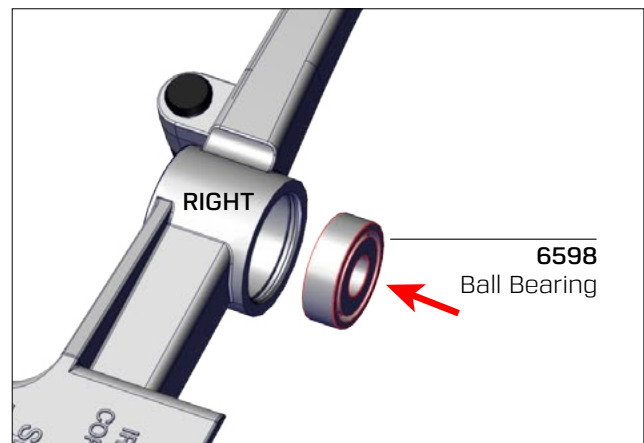

Fig. 15.
- D. Working from outer side of RIGHT drive arm hub, insert one new **#6598** ball bearing. Push the bearing into bore of hub with finger pressure (see Fig. 15).